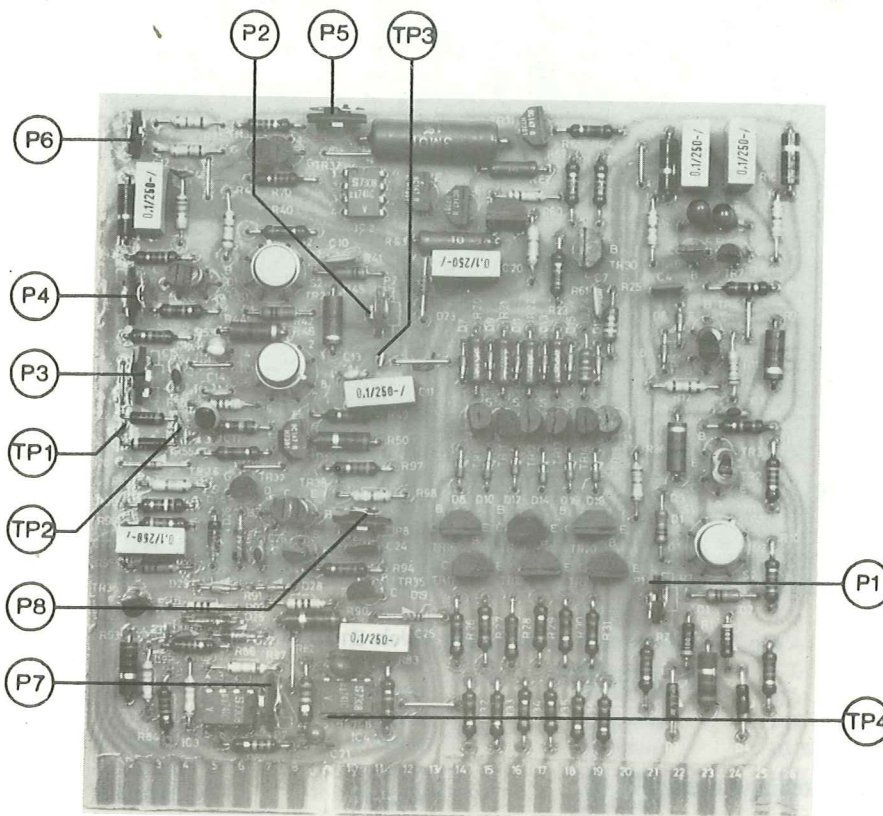

Fig. 5. Adjustment of DC balance, sensitivity and current generator.
### Adjustment of DC Balance and Sensitivity (Fig. 5).
#### Adjustment of Current Generator (Fig. 5).
4. Short input terminals together and set "DC zero" for min. reading. Thereafter set potentiometer P7 (Fig. 5) for 0 V at output of IC4 (TP4).